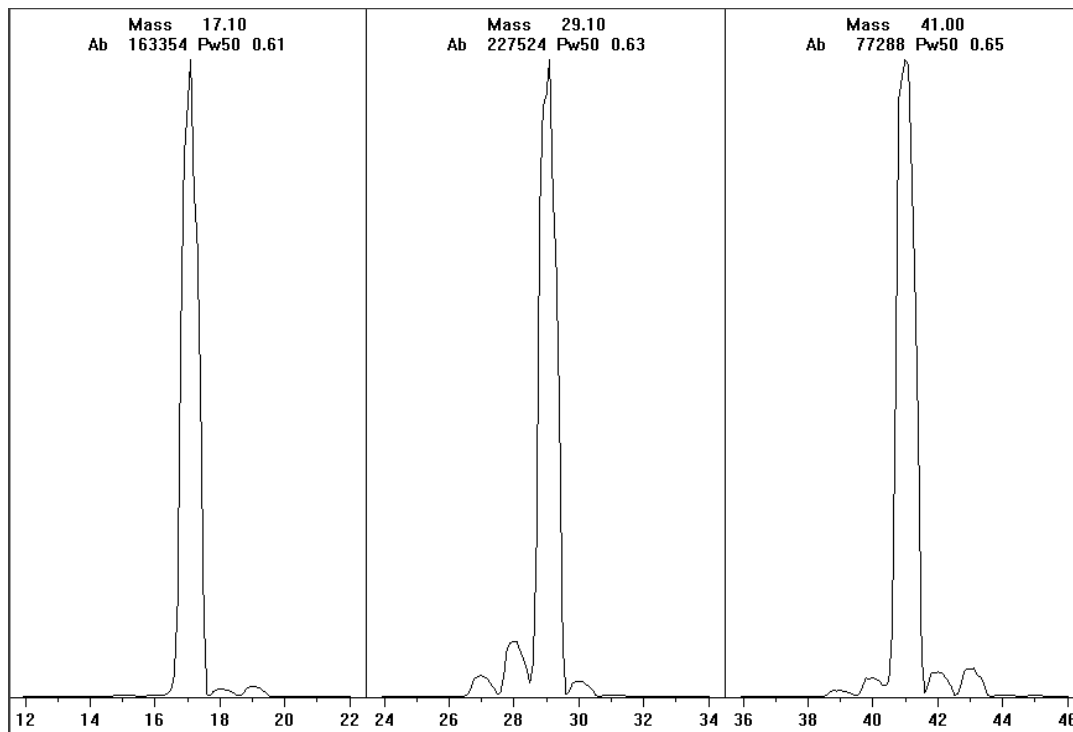

Figure 29 Reagent ion scans
- 5 Examine the displayed profile scan of the reagent ions (Figure 29).